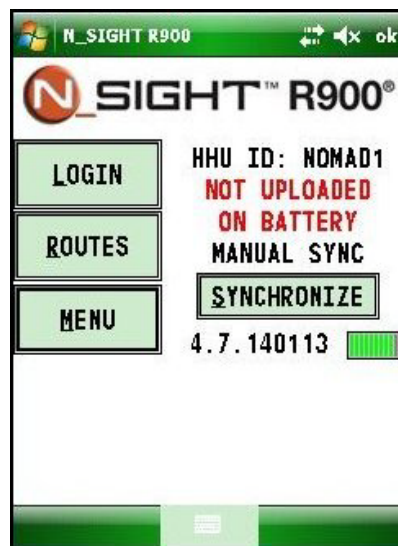

Figure 11.1 N\_SIGHT R900 Login Screen
- 1 From the N\_SIGHT R900 Login screen, touch **Menu** or press **M**. See Figure 11.1.
A beep sounds and the N\_SIGHT R900 Login screen appears as illustrated in Figure 11.1 on Page 11-5.
- 1 From the N\_SIGHT R900 Login screen, touch **Menu** or press **M**. See Figure 11.1 on Page 11-5.